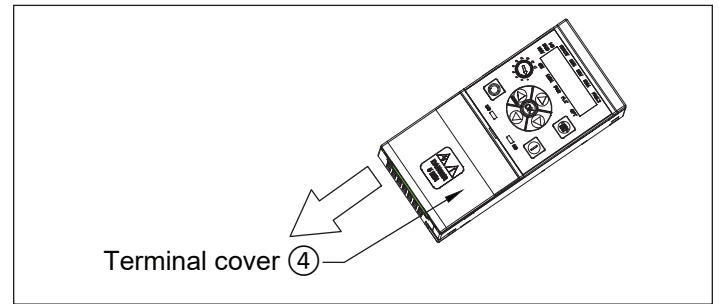

Figure 3. Removing the terminal cover.
Remove the terminal cover ④ (see Figure 3).